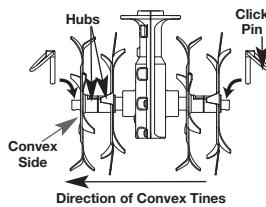

Fig. 5
- Remove the click pin from each end of the tine shaft. Slide the tines off of the shaft (Fig. 5).
- Slide on the new tines with the hubs facing each other (Fig. 5).
NOTE: Each tine has a convex side. Make sure that all of the convex sides are facing as shown in Figure 5.